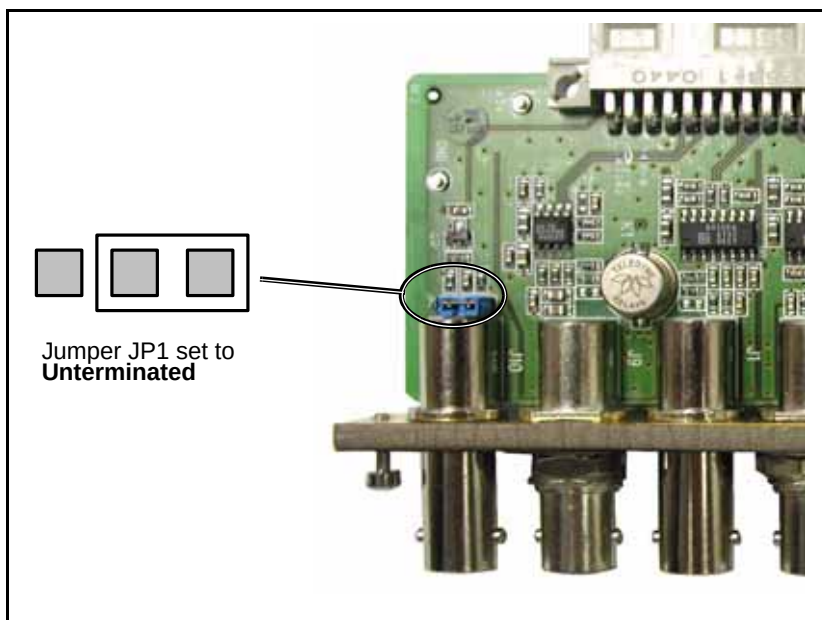

Figure 4-2. Jumper JP1 on the NSM Back Module
- b. Locate jumper **JP1** on the NEO NSM back module (see Figure 4-2), and then set the NEO NSM back module to **Unterminated** reference by setting **JP1** as shown.